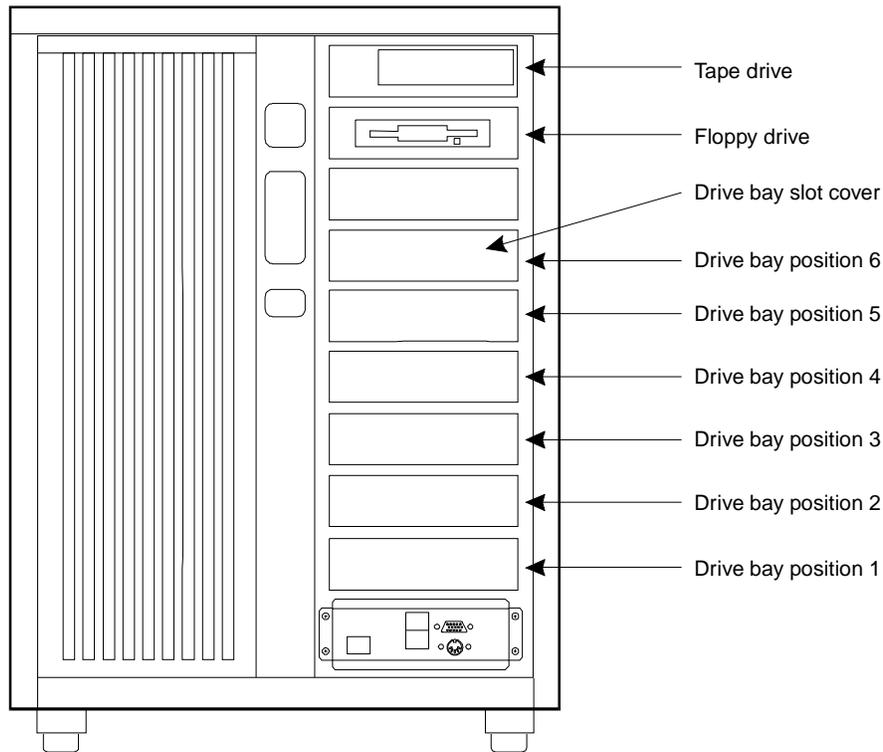

Figure 3-3. Front View of the MAP/100
1. Locate the tape drive on the front of the MAP/100 (Figure 3-3).
1. Locate the diskette drive on the front of the MAP/100 (Figure 3-3).